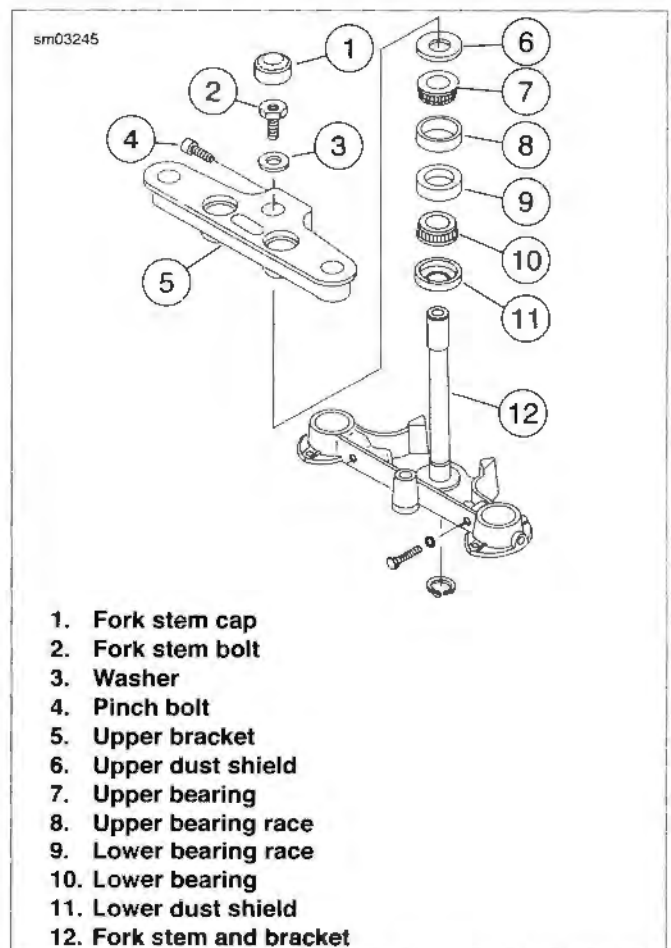

Figure 1-45. Steering Head: FLST, FLSTC, FLSTF/B, FLSTN
- a. See Figure 1-45. Loosen the upper fork stem pinch bolt (4).
- c. Loosen the fork stem bolt (2) slightly.
- a. See Figure 1-45. Loosen the pinch bolt (4).
- c. Tighten the fork stem bolt (2) slightly.